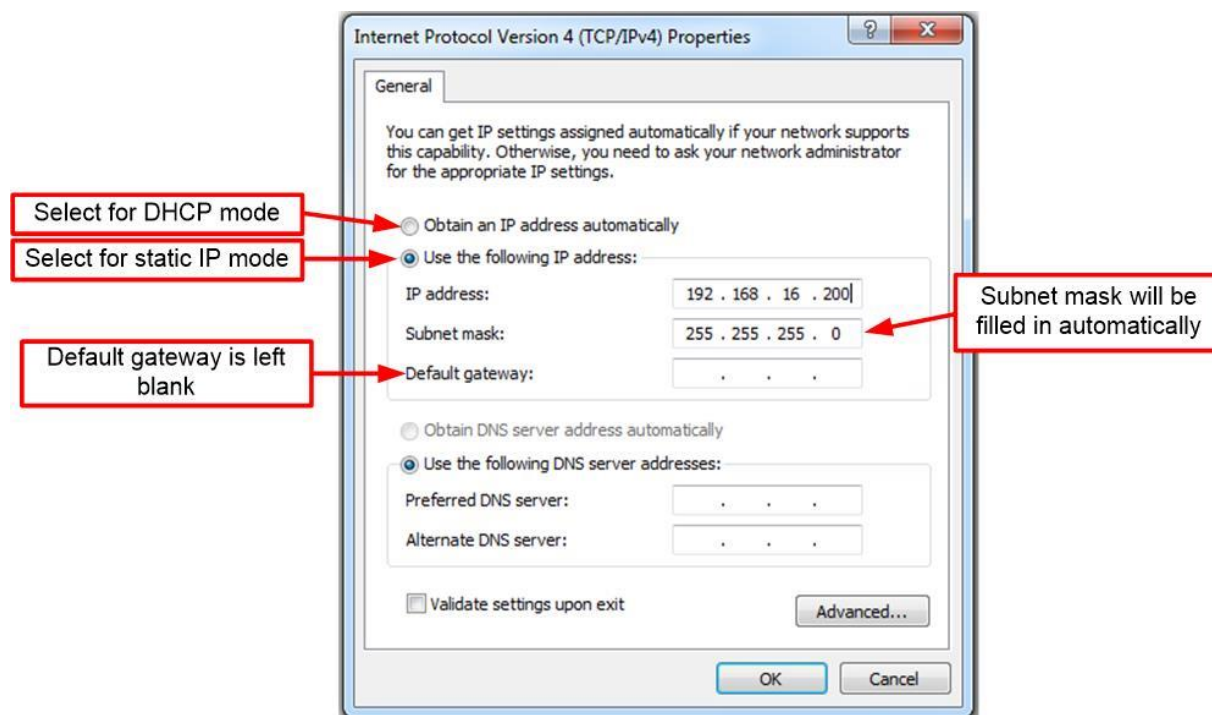

Figure 2-4 Windows Network Connections IPv4 properties page –Static IP
Step 7: To set the unit to a static IP address, select the "Use the following IP address:" option. Then enter the desired IP address in the designated field. A suggestion is to use the IP address 192.168.16.200 as shown below. Once the IP address is filled, the Subnet mask field will automatically populate. See Figure 2-4.